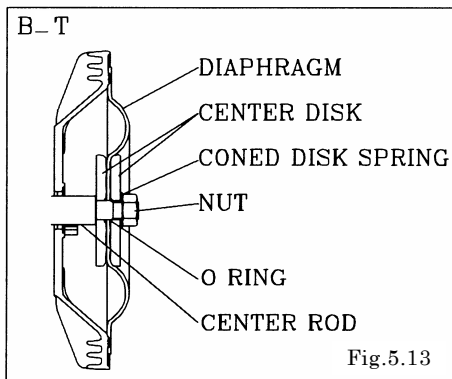

Fig.5.13
- Keep the convex side to the outside (cf. Fig.5.13).
- Put the O rings to both sides of the diaphragm. (cf. Fig.5.13)